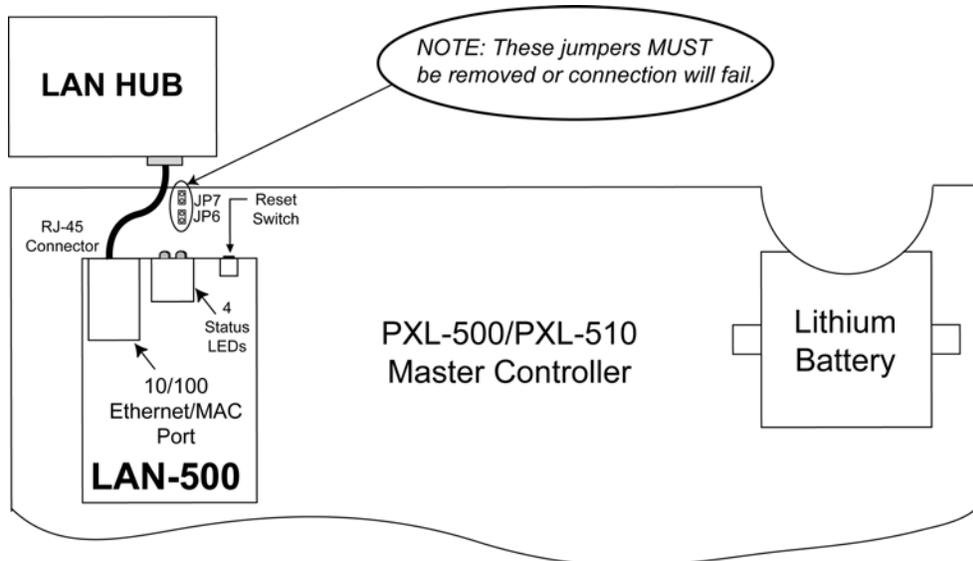

Figure 3: LAN-500 Connection Diagram
2. On the master controller, **remove the jumpers from JP6 and JP7** (see Figure 3).
4. Insert the LAN-500's U6 connector pins (located on the underside of the LAN-500) into the PXL-500's TB13 (see Figure 3 for location of connection).